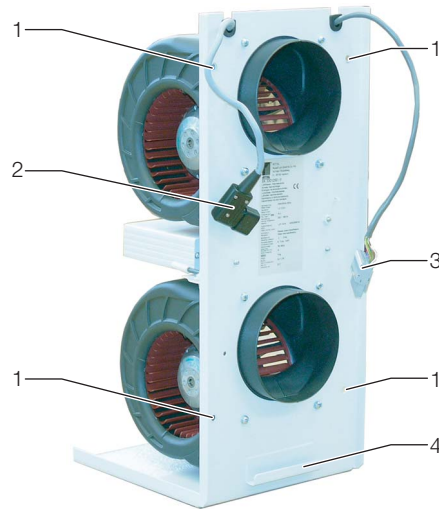

Fig. 33: Fan module of an LCP module
- Loosen the 4 assembly screws found on the front side of the fan module (Fig. 33, Pos. 1).
- Pull out the connector for the power supply and the control cable (Fig. 33, Pos. 2 and Pos. 3)
- Using the handle (Fig. 33, Pos. 4), pull the fan module completely out of the module plug-in.